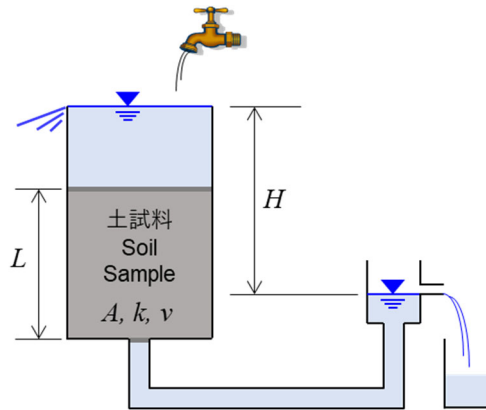

Fig. 3. Constant head permeability test.
- 1) A constant head permeability test for a soil sample is shown in Fig. 3. The cross-sectional area, height and hydraulic conductivity of the soil sample are A , L , and k , respectively. The discharge velocity in the soil sample is v . The difference in water level between the upstream and downstream sides is H .